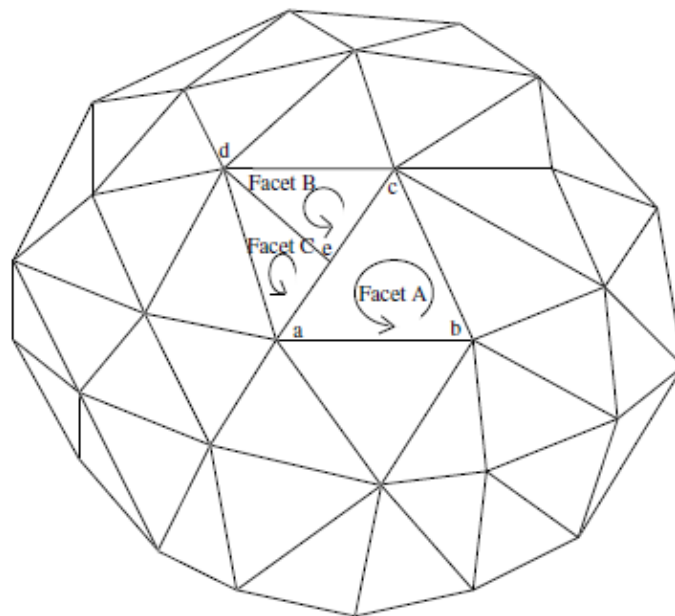

Figure 1B
- 1B.** Interpret the error in the STL file shown in figure 1B below and apply the appropriate technique to solve it. **(05)**